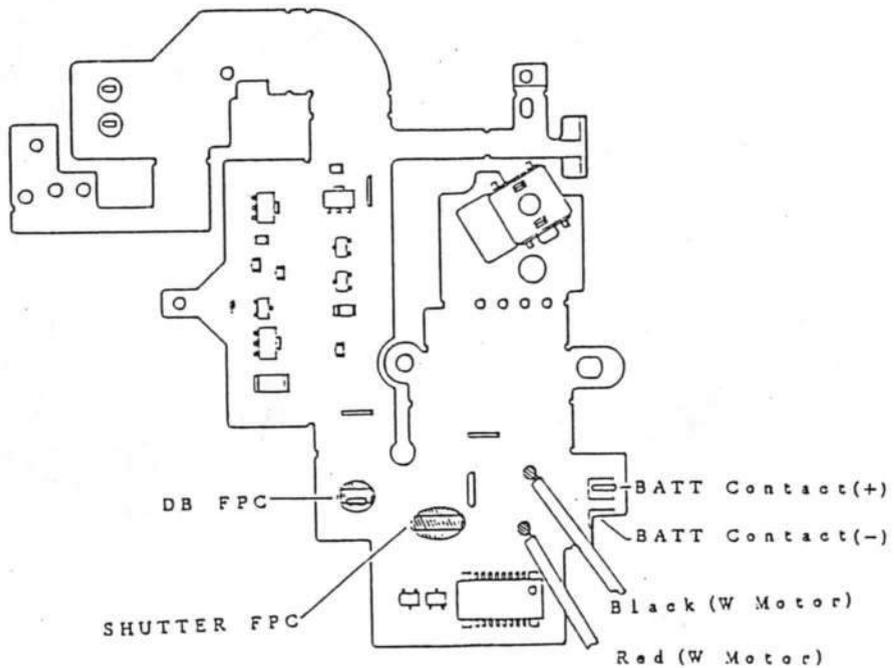

Fig.29
- (1) Put the UPPER BASE PLATE (No.10) to the body and tighten ten SCREWS (No.5,6,7, 8,9)
- (2) Solder between DV FPC-DB FPC, Shutter FPC, BATT. contact (+,-) as shown in Fig. 29.
- (3) Solder two LEAD WIRES (Black, Red/ W motor) to the DV FPC.
- (4) Put the FPC holder and set the DV FPC.
- (5) Put the RL SW HOLDER (No.2) and tighten SCREW (No.1)